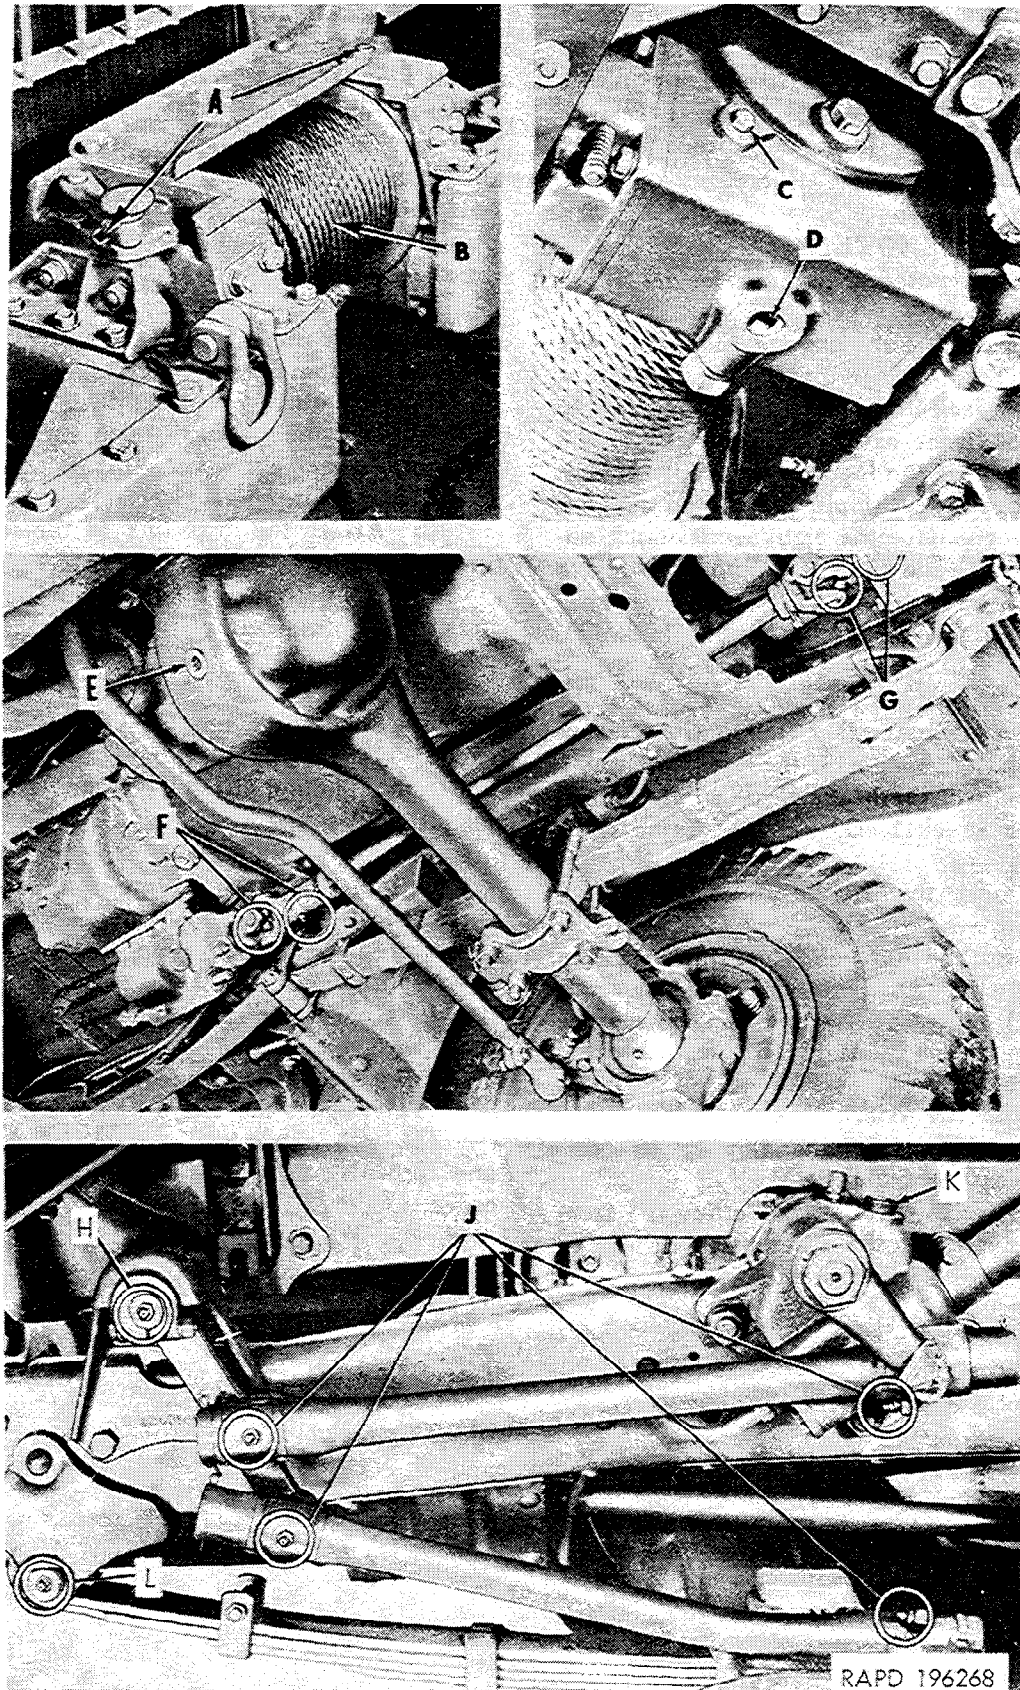

Figure 2-146. Localized lubrication points (A through L).
c. *Drain Plug.* The drain plug (E, fig. 2-146) is a special plug. A 7/8-inch annular gasket is used with the drain plug. Check the plug and gasket